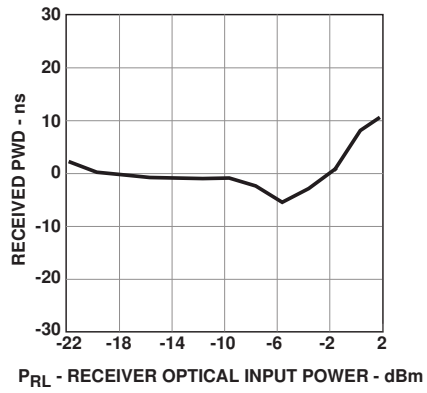

Figure 8. Typical POFR receiver pulse width distortion vs. optical power at 12 MBd
- Receiver overdrive ($P_{RL,max}$) is specified as the limit where $|PWD|$ will not exceed 30 ns. The receiver will be in the correct state (logic “0”) for optical powers above $P_{RL,max}$. However, it may not meet a 30% symbol period PWD if the overdrive limit is exceeded. Refer to Figure 8 for PWD performance at high received optical powers.